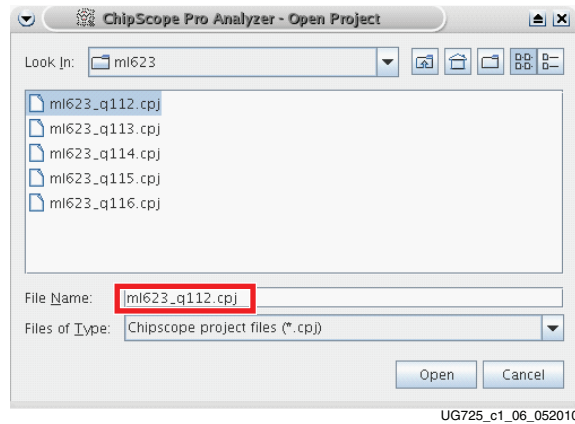

Figure 1-6: Open Project Window
- When the Open Project window appears, navigate to the location on the host computer where the .cpj project files were extracted, select ml623_q112.cpj and click **Open** (Figure 1-6).